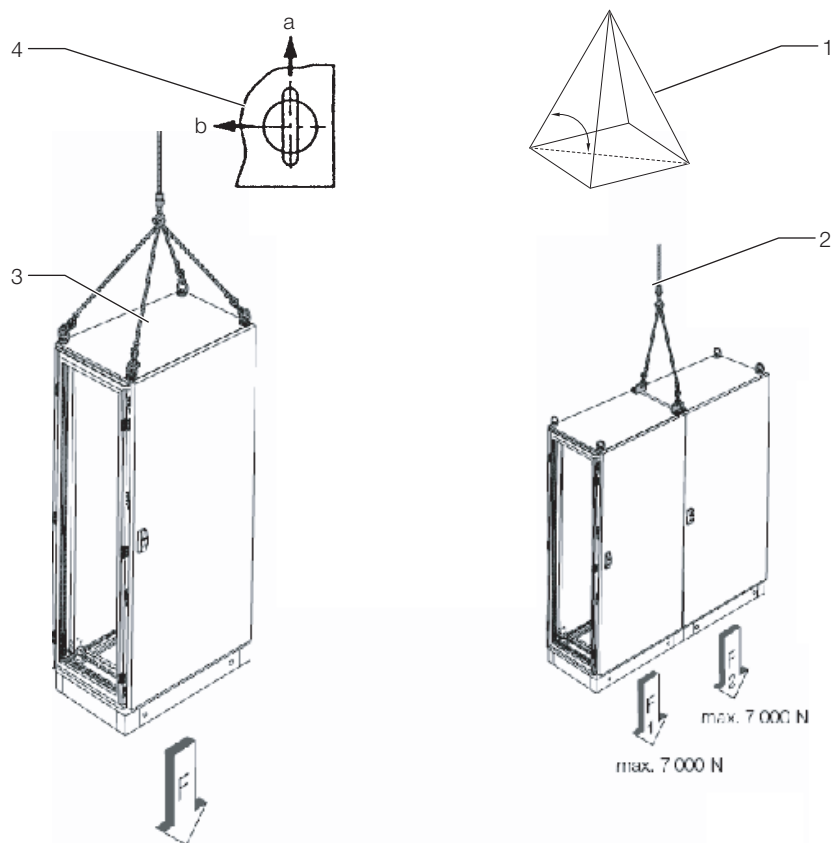

Fig. 3: Crane transportation using eyebolts
Individual enclosures (Fig. 3, item 3) are transported safely using the eyebolts included with the delivery. For systematic loads, the following maximum permissible loads apply:
For the combination shown above (Fig. 3, item 2) with angular baying brackets, quick-fit baying clamps and combination angles, the load capacity with a sling angle of 60° is as follows: